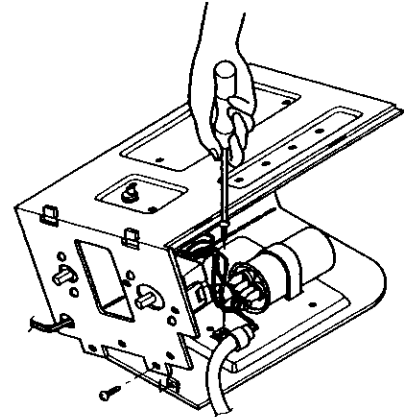

Figure 68
6. Pull the power cord. (See Figure 68)